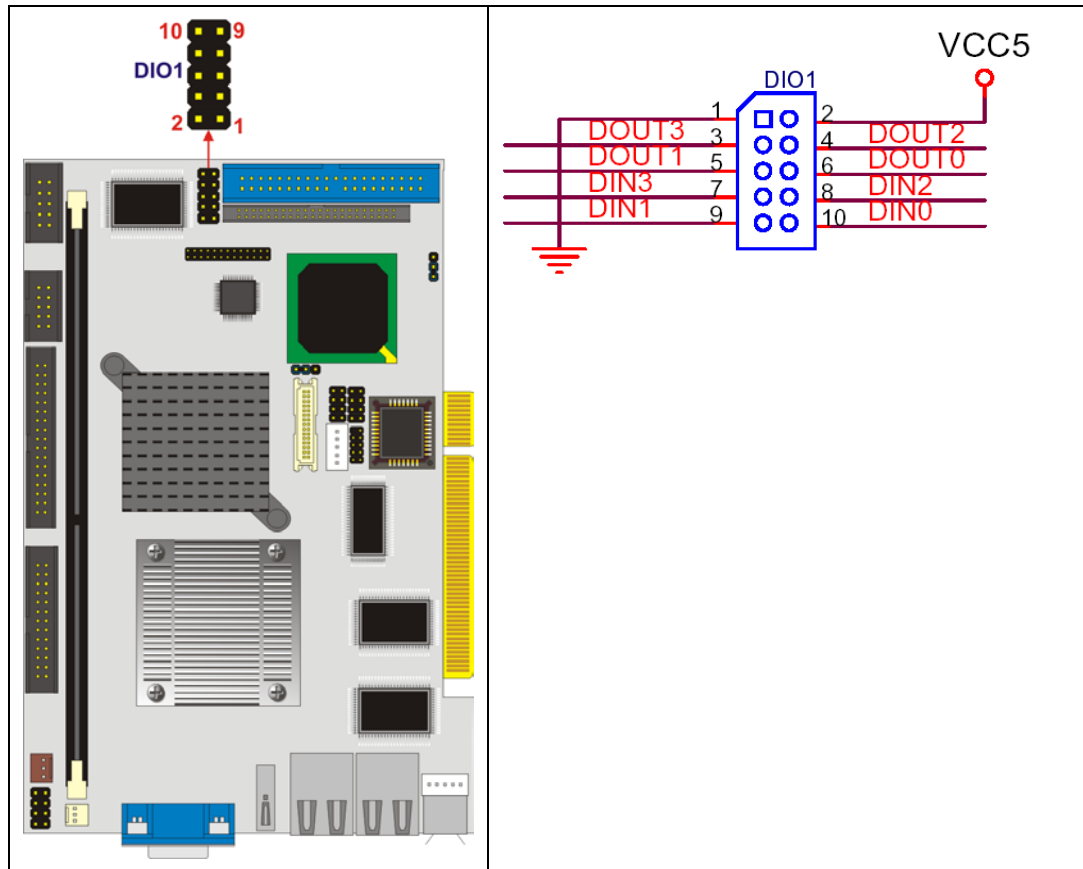

Figure 3-6: DIO Connector Connector Locations
- CN Location:** See Figure 3-6